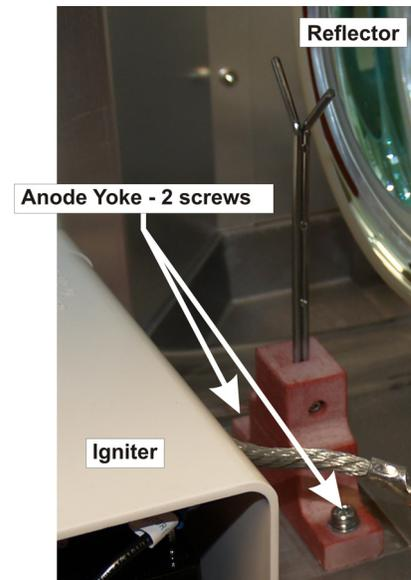

FIGURE 1-12 ANODE YOKE ASSEMBLY
3. Remove 2 screws securing the anode yoke assembly to the base. (Figure 1-12)